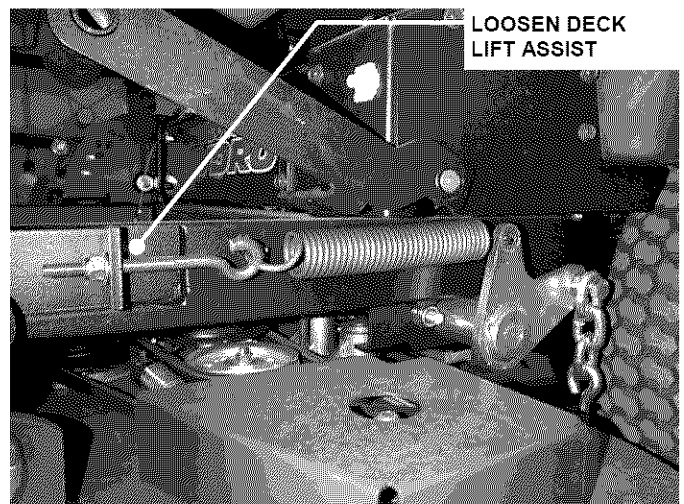

FIGURE 4.9
1. Move deck lift lever and set the mower deck to the highest cutting position. See Figure 4.9.
2. **IMPORTANT – STORED ENERGY.** Relieve tension on deck lift assist spring by backing off nut on eyebolt. Failure to relieve tension could result in personal injury. See Figure 4.9.
4. Move deck lift lever and set the mower deck to a lower cutting position until deck rests on wooden blocks. Position the deck to where there is no tension on the deck hanger chains. See Figure 4.9.